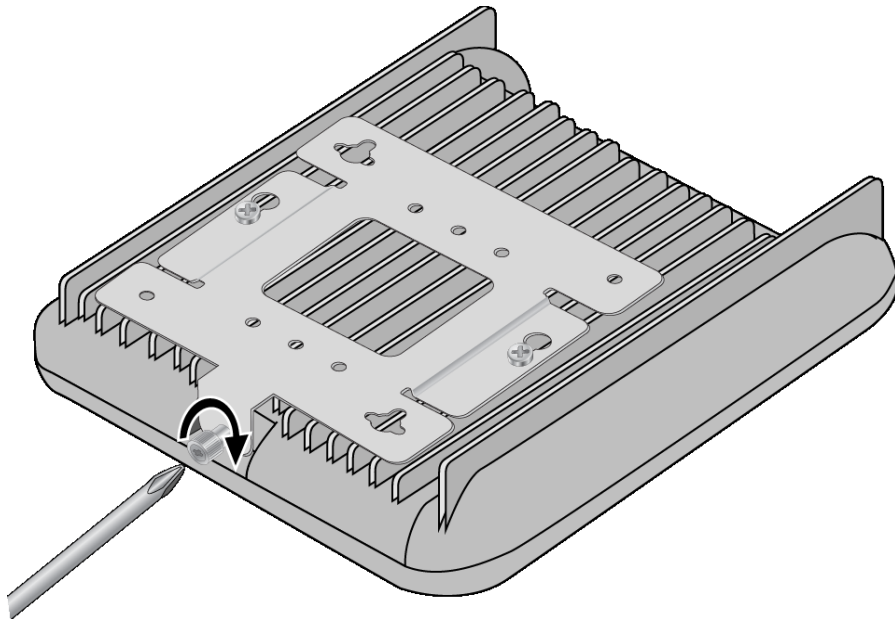

Figure 13. Tightening Bracket Retaining Screw
4. Tighten the bracket retaining screw. Refer to Figure 13.